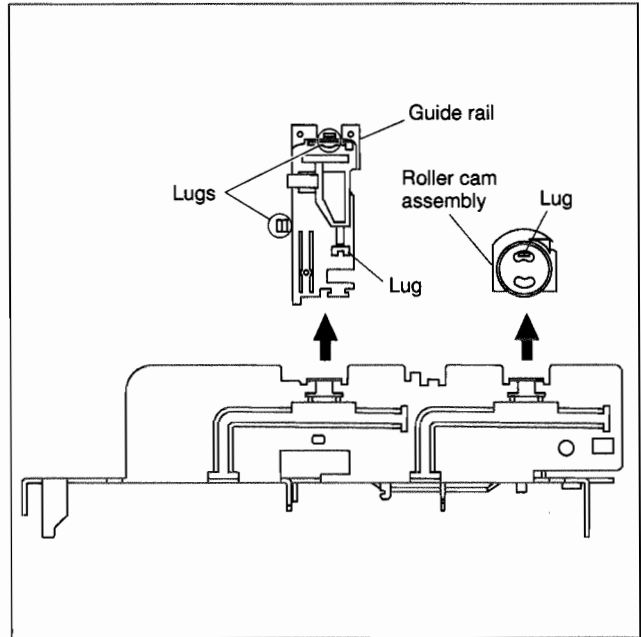

Fig. 2-2-2
- (1) Remove the guide rail and roller cam assembly. (See Fig.2-2-2.)